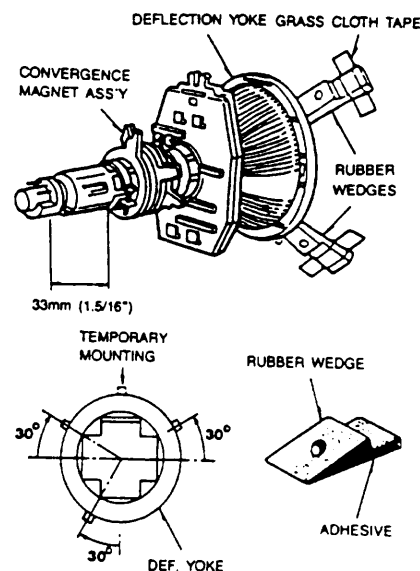

Fig 1.
- Rotate and spread the tabs of the purity magnet (see fig 1) around the neck of the picture tube until the green belt is in the centre of the screen. At the same time centre the raster vertically.
- Tighten the screw firmly to hold the yoke tightly in place. Stick 3 adhesive tapes on wedges as shown in fig 1.